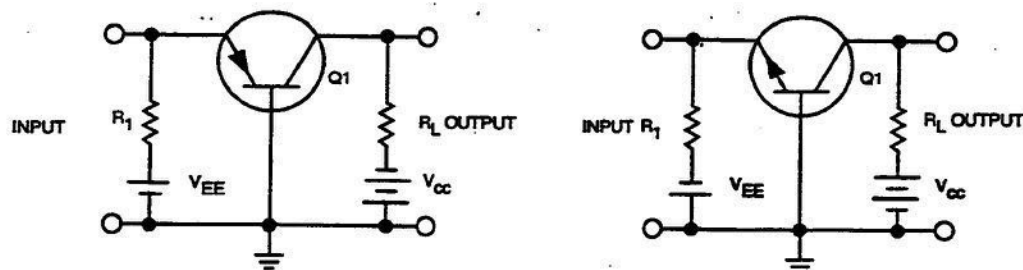

Figure 3-15. Common-base (CB) amplifier.
**Common base.** Figure 3-15 illustrates the common-base configuration. Both types of transistors—NPN and PNP—are shown; polarities of the source voltages are the only difference between the two. DC voltages are used at this time to establish the basic operating conditions of the amplifiers.